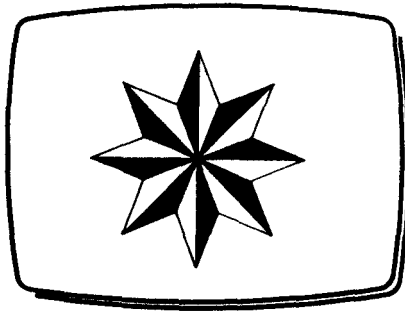

Fig 5
- 13 COPY the complete shape, then plant it centre screen at various scales (Fig 5).